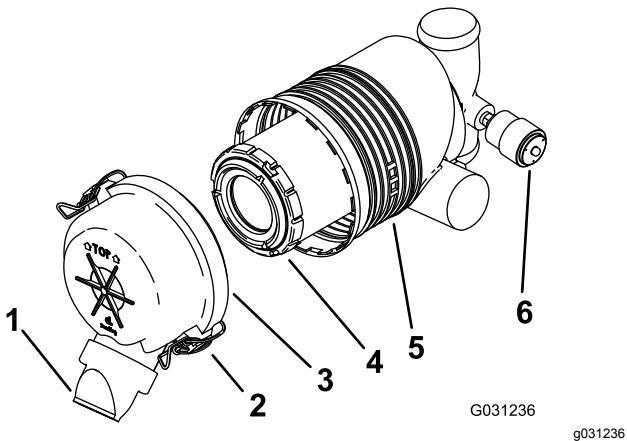

Figure 47
Important: Service the air-cleaner filter only when the service indicator shows red (Figure 47). Changing the air filter before it is necessary only increases the chance of dirt entering the engine when the filter is removed.
4. Release the latches on the air cleaner and pull the air-cleaner cover off the air-cleaner body (Figure 47).
1. Gently slide the filter out of the air-cleaner body (Figure 47).
4. Carefully install the filter (Figure 47).
5. Install the air-cleaner cover with the side indicated as TOP facing up and secure the latches (Figure 47).